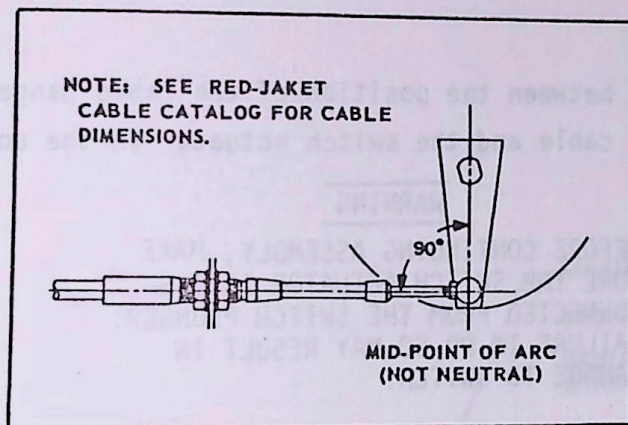

FIGURE 1-1
1.1.2 The control cable must be at right angles to the transmission selector arm when the arm is at the mid-point of its arc of travel. See Figure 1-1.